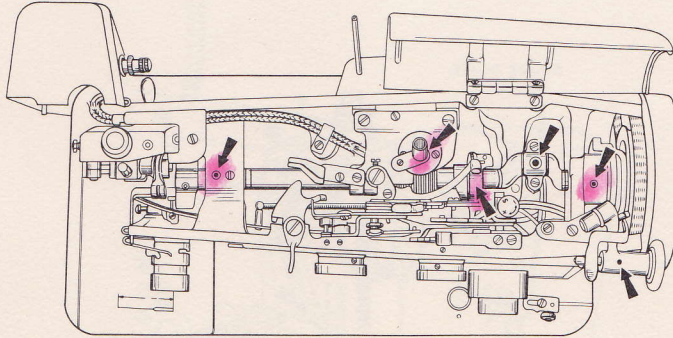

Fig. 33
2 screws (C). Lift off arm cover and apply oil to the holes indicated in Fig. 33. Turn the hand wheel and apply 2 drops of oil to all moving parts.